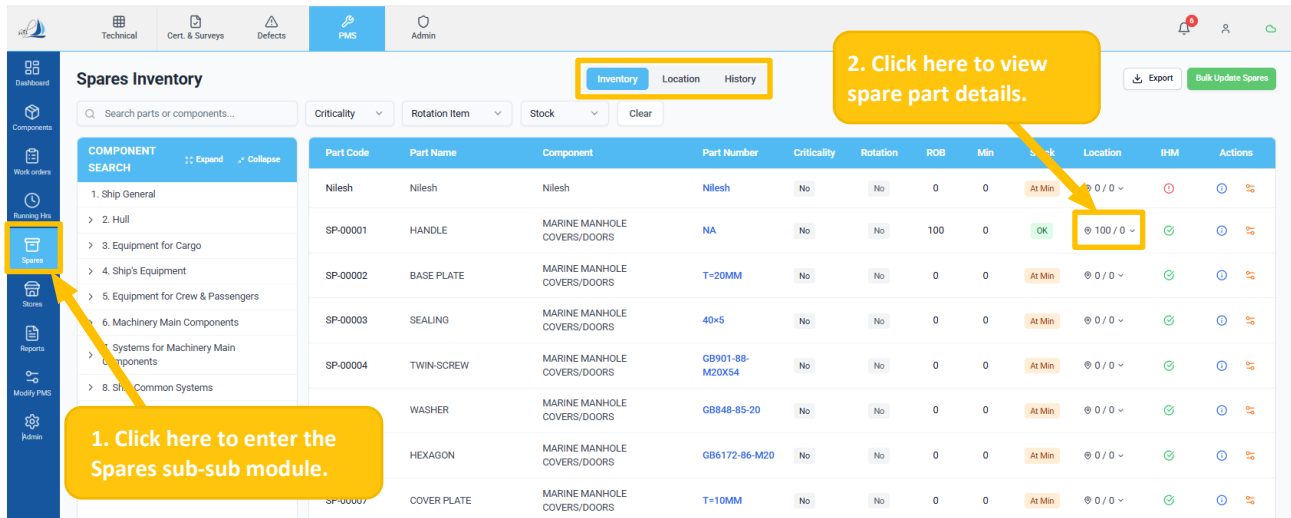

Figure 54
- Click the 'Spares' sub-sub-module to access spare parts inventory. (Ref. Figure 54)
- Click on the 'Location' icon in the table column to update the location. (Ref. Figure 54)